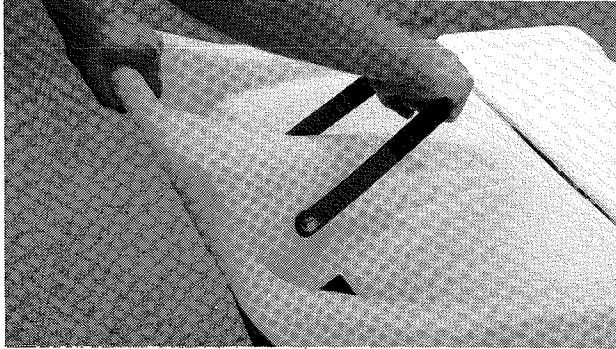

Figure 5
3. Stop the Max Trac after each half hour of operation to clean the filter tubes. Turn off the Master Switch, then push the shaker handle up and down vigorously five times as shown in **Figure 5**. This knocks dirt out of the filter tubes for full airflow and best dirt recovery.